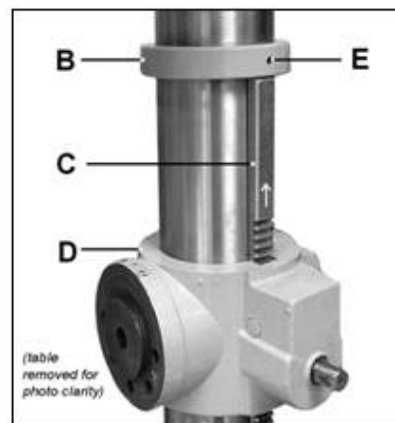

Fig 2
Remove the ring (B, Fig 2) and rack (C) from the column.